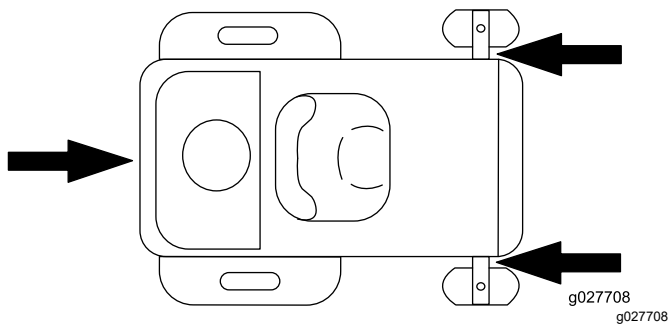

Figure 23
- Securely fasten the machine to the trailer or truck with straps, chains, cable, or ropes. Only use the four designated tie-down locations on the mower—two on the left side and two on the right (Figure 23). Use these locations even when transporting the mower with an attached accessory. Using non-designated locations may cause damage to the mower and/or attachment.